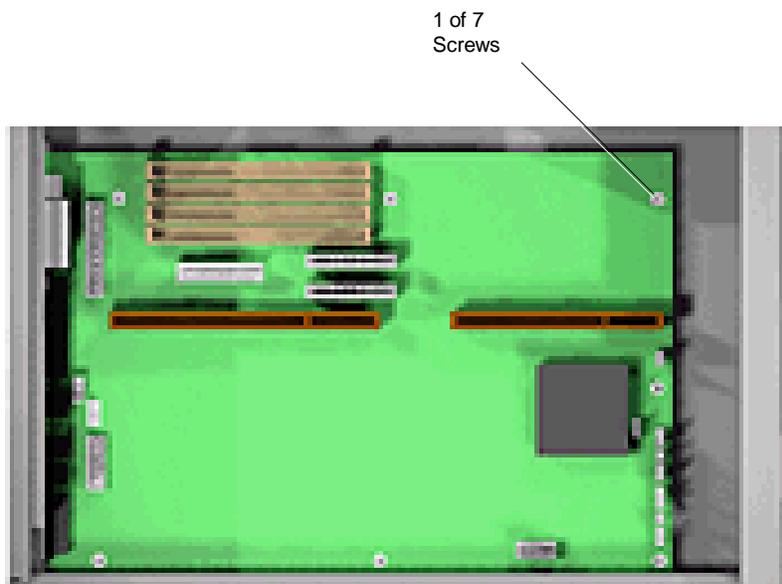

Figure 5-15 System Board Connectors and Screws
Remove the system board per Figure 5-15 and the following steps.
2. Remove and label all cables connected to the system board Figure 5-15 provides the general locations of the connectors for the system board. Appendix A provides the pin assignments for each connector.
3. Remove the seven screws that hold the system board to the system unit chassis (see Figure 5-15). Remove the system board out the side of the system unit.